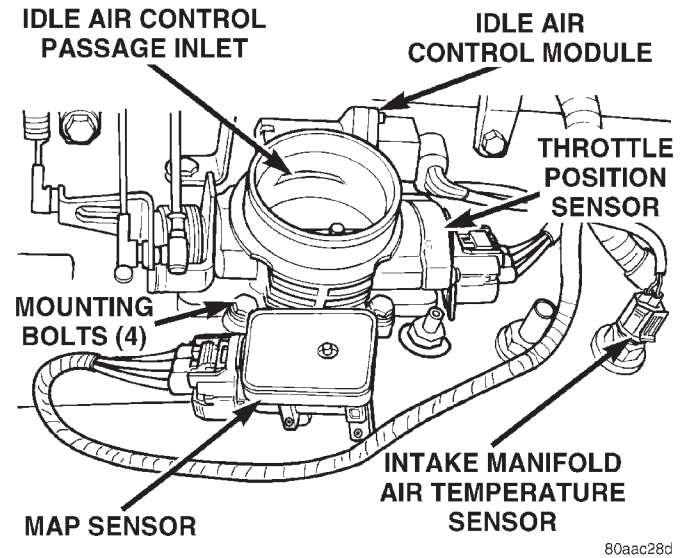
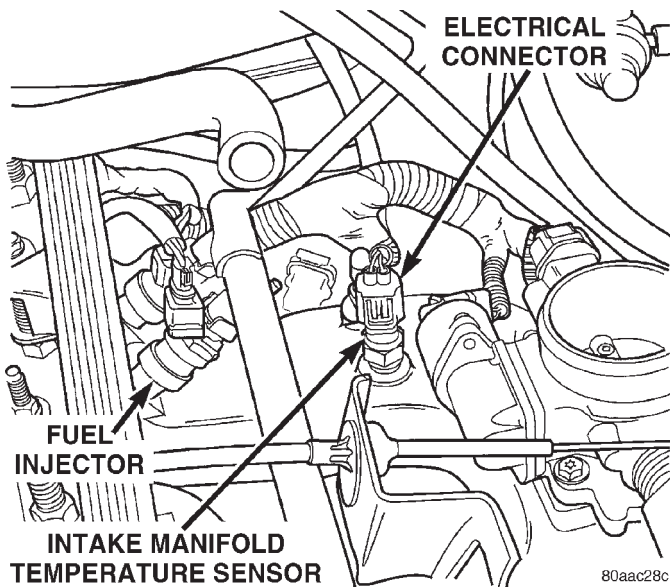

Fig. 37 Intake Manifold Air Temperature Sensor—4.0L Engine
Fig. 38 Intake Manifold Air Temperature Sensor—2.5L Engine
(1) Disconnect wire harness connector from intake manifold air temperature sensor (Fig. 37) or (Fig. 38).
To perform a complete test of the TPS (Fig. 37) and its circuitry, refer to the DRB scan tool and appropriate Powertrain Diagnostics Procedures manual. To test the TPS only, refer to the following: